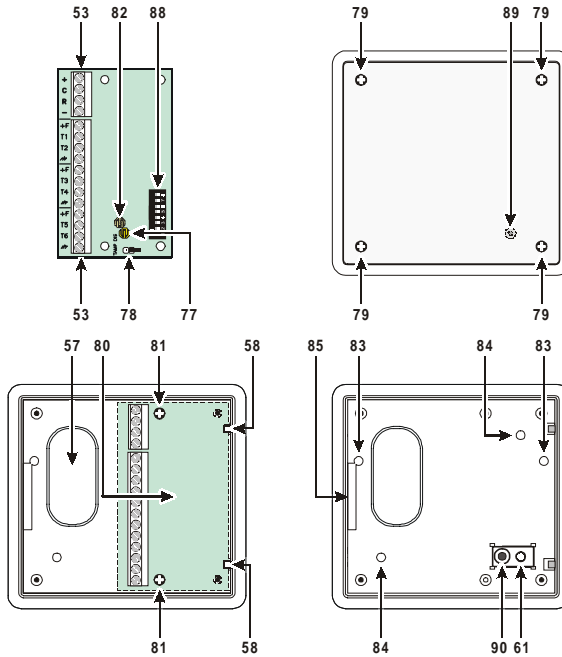

Figure 1.3 - M-IN/OUT Expander and dedicated container
5. Replace the Expander Module [80] (see Figure 1.3), ensure that it is held firmly in place by the PCB clips [58] then, using the two screws [81], secure it to the backplate.